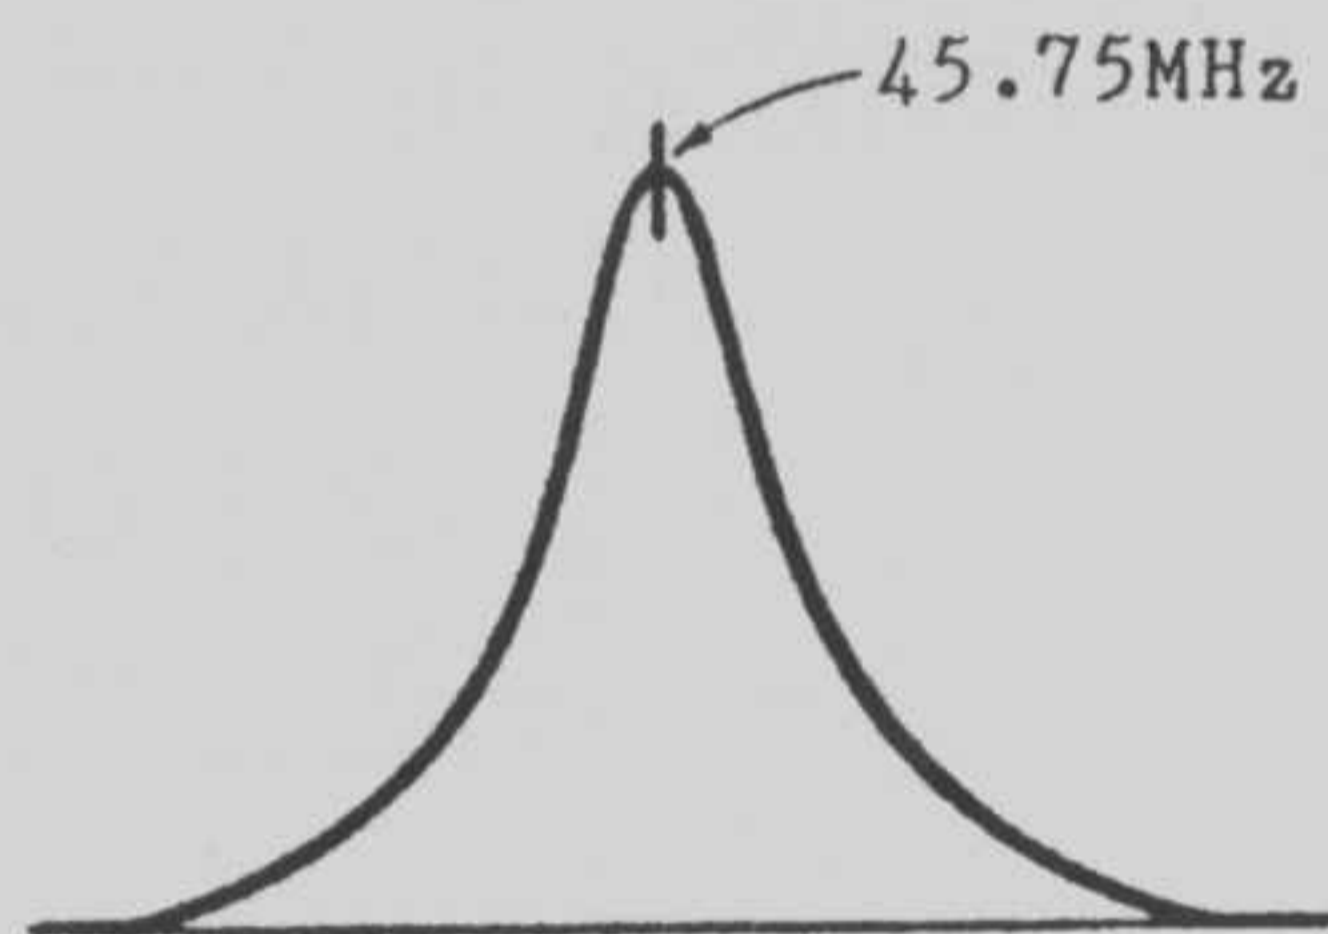

Figure-8
- e) Adjust L501, 604, 606, 608, 609, VC601 and 602 to obtain a frequency response and maximum amplitude at 45.75MHz as shown in Figure-8